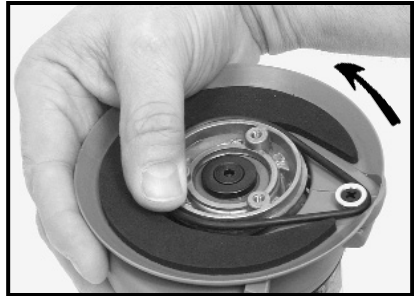

Fig. 11
5. Rotate the pad support as you “walk” the belt onto it (see Fig. 11).